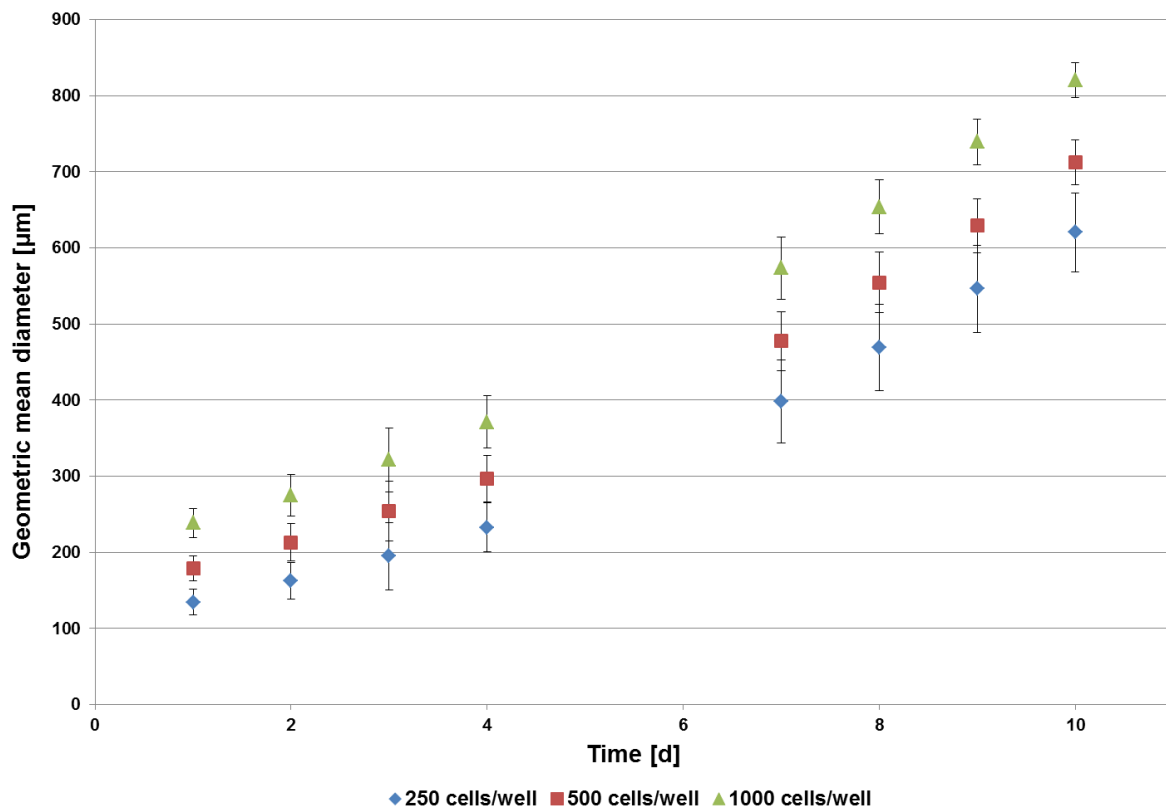

Figure 2 Spheroid growth of MCF-7 spheroids is dependent on the seeding concentration and the cultivation time.
- Spheroid formation, growth kinetics and spheroid characteristics are cell type dependent (Figure 2).